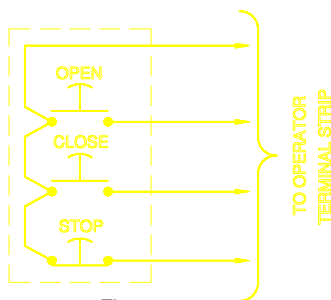
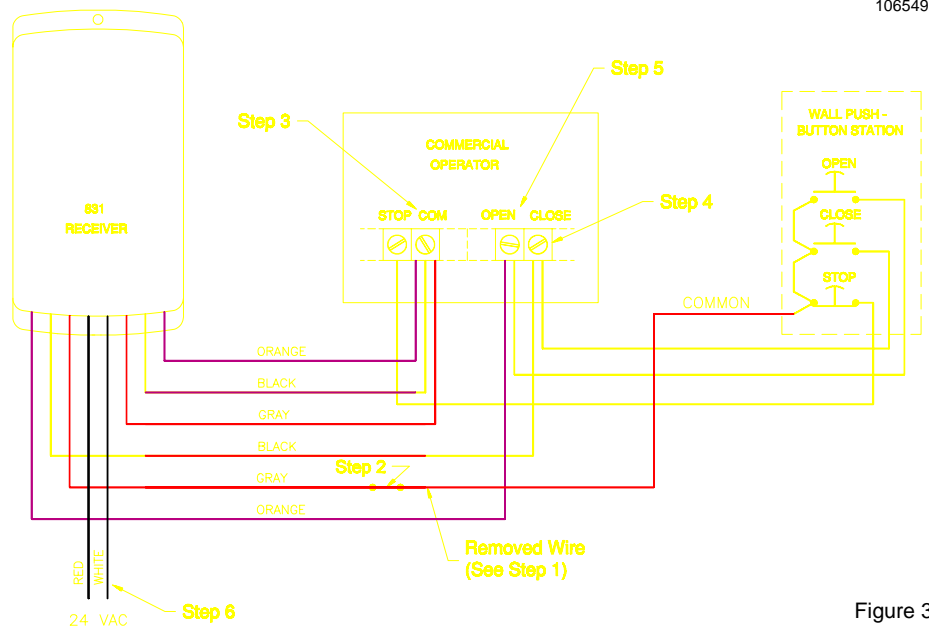

Figure 2
Figure 3
Typical 4-wire 3-button stations are wired as shown in Figure 2. Number 18 gauge wire or heavier must be used for wiring the control stations and the 831E receiver to the door operator. Smaller gauge wire may cause operational problems, especially when multiple 3-button stations are used. For typical installations the 831E receiver is mounted near the door operator, away from any high voltage conduits or steel support beams. For wiring, follow the steps below and refer to Figure 3.
- Check the wire & connections in the STOP circuit. Refer to Figure 3.